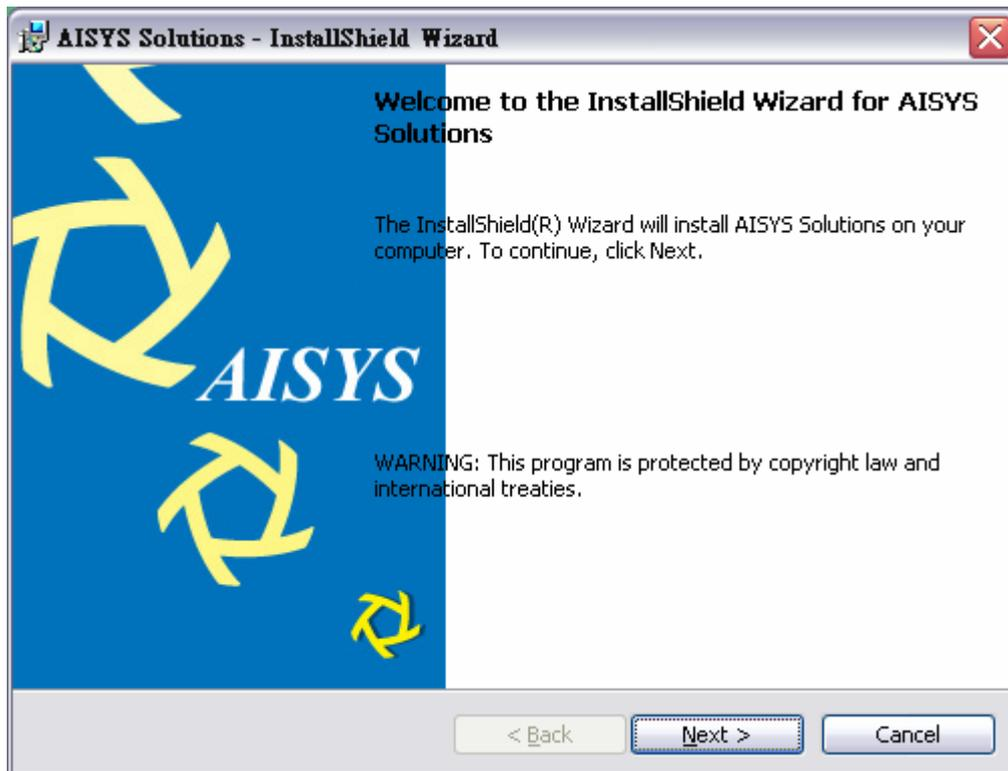

Figure 1.
1. Insert “AISYS Solution CD” and follow the instructions the auto-run application prompts or run the setup utility “**setup.exe**” directly in root directory in the CD to start the installation procedures as shown in Figure 1.